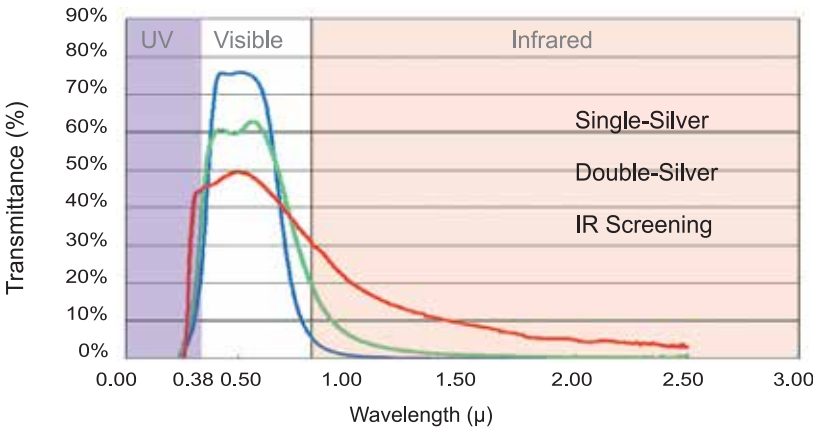

Figure 2
Shading coefficient (SC) is determined by integration over the whole solar spectra from 300nm to 2500nm, oftenly used to evaluate glass performance against solar heat in design practice and building codes. As a matter of fact, visible light acts differently from solar infrared radiation in energy efficiency of buildings. The figure 2 shows a comparison of different glass products with the same SC. Obviously, infrared screening glass has the lowest solar IR transmittance & in eturn the best performance against solar IR and in reduction of cooling load. In view of all IR screening glass products having a direct solar IR transmittance below 2%, the selection process shall follow visible light transmittance & aesthetic appearance requirements rather than shading coefficient SC to optimize energy efficiency of buildings.